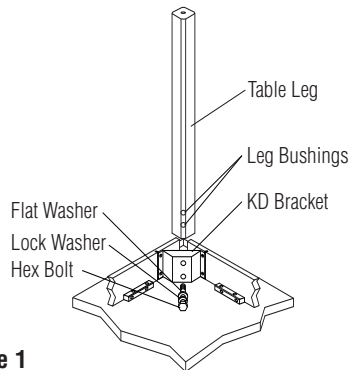

Figure 1
2. Place lock washer then flat washer on bolts (Figure 1).
3. Place table leg into position between aprons so bushings are facing the KD bracket holes (Figure 1).